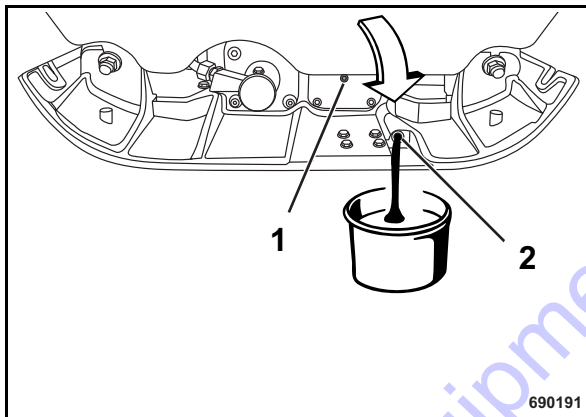

Fig. 73
- Unscrew the bleeding screw (1) (Fig. 73).
- Unscrew oil drain plug (2), drain and catch running out old oil.